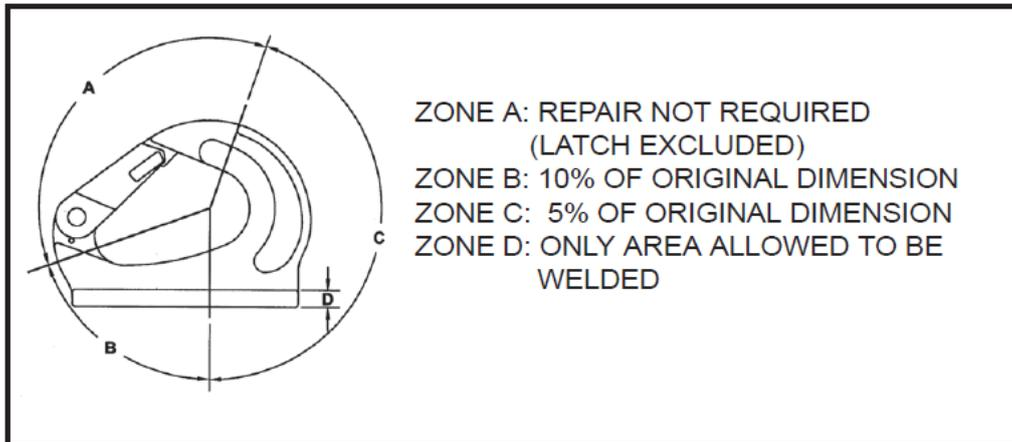

Figure 1
- Never use a hook that is worn beyond the limits shown in Figure 1.
- Remove from service any hook with a crack, nick, or gouge. Hooks with a nick or gouge shall be repaired by grinding lengthwise, following the contour of the hook, provided that the reduced dimension is within the limits shown in Figure 1. Contact YOKE Engineering to evaluate any crack.